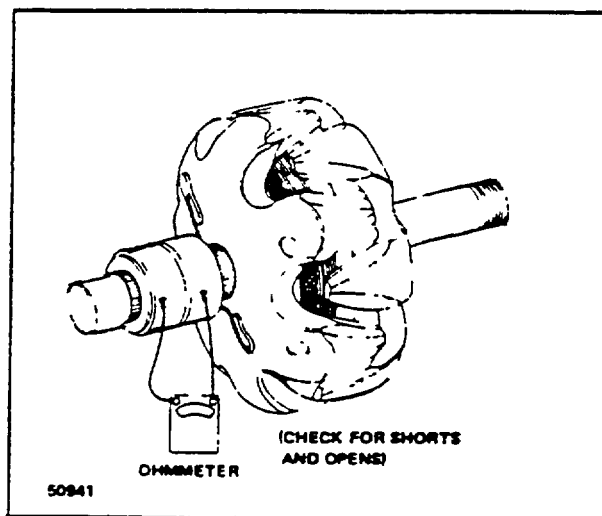

Figure 2-5. Checking Rotor Field Winding
- (1) Separate end frames as indicated in Alternator Repair Disassembly section.
- (2) Check field winding for shorts. See Figure 2-5. If shorted replace rotor and regulator.
If the lamp fails to light, or if the ohmmeter reading is high (infinite), the winding is open (Fig. 2-5).
An alternate method is to check the resistance of the field by connecting an ohmmeter to the two slip rings (Fig. 2-5). If the resistance reading is below the specified value, the winding is shorted; if above the specified value the winding has excessive resistance. The specified resistance value can be determined by dividing